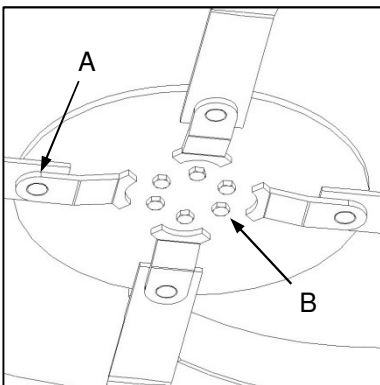

Fig. 1
- ✔ Check all fasteners for tightness. This includes special attention to safety-critical fasteners such as blade bolts and nuts (Fig. 1-A), cutting gear mounting bolts (Fig. 1-
- ✔ Verseker dat alle hegstukke vas is. Dit sluit in spesiale aandag aan veiligheidskritieke hegstukke soos lemboute en -moere (Fig. 1-A), snymeganisme